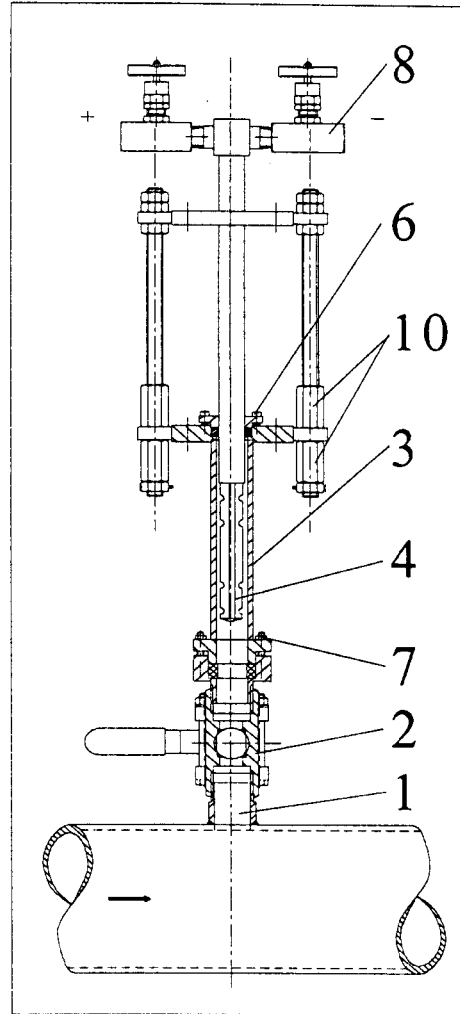

Fig.21: Sensorprofile in retract position type FTH-25
5. Inspect the packing gland for evidence of leakage, if available screw down screws and nuts {6+7}. If the unit was ordered with high-temperature gland, additional adjustment may be required at this time. (Fig21/22)
Continue this procedure until the probe is fully retracted as shown in Fig. 21+22.